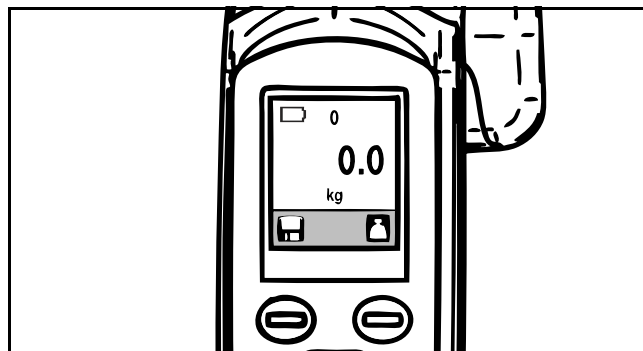

Fig. 61
- 2) If the sling has already been installed on the spreader bar at start-up, the MAXI MOVE has already zeroed automatically and taken the weight of the sling into account (see Fig. 61).